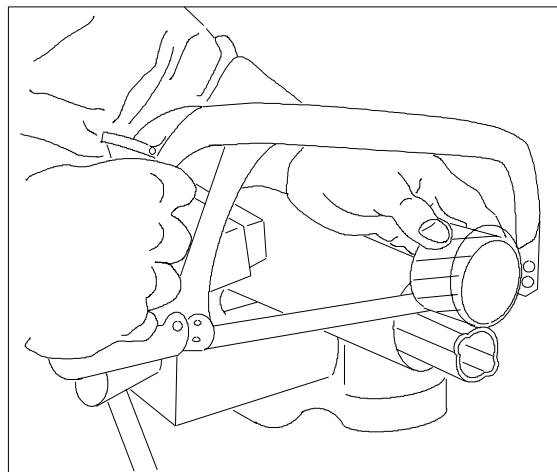

Fig 8.
- Cut a piece from profile tube which is as long as the piece you cut off from the shield. Shorten the other PTO shaft by the same length. After cutting file sharp edges. See fig.8.-9.